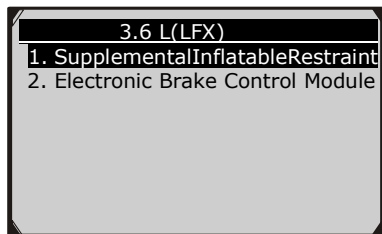

Figure 6.7
- 6) Use the **UP/DOWN** scroll button to select the desired control module from the retrieved engine data menu (in **GM**'s case, the selected engine model: **3.6 L(LFX)**), and press the **OK** button.(Figure 6.7)